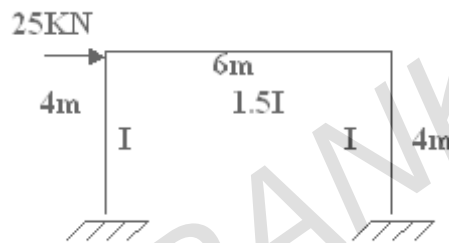

Figure 1
8. Analyse the portal frame shown in figure 1 and Sketch the BMD by using moment distribution method. [16]